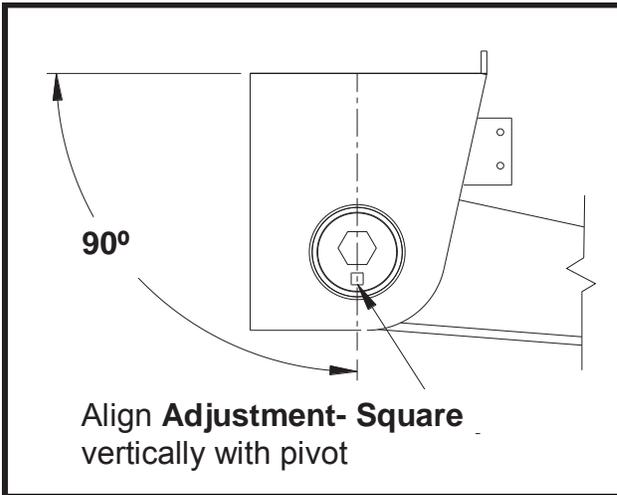

Figure 20
3. Start out with the Adjustment-Square vertically aligned with pivot as shown in **Figure 20**.